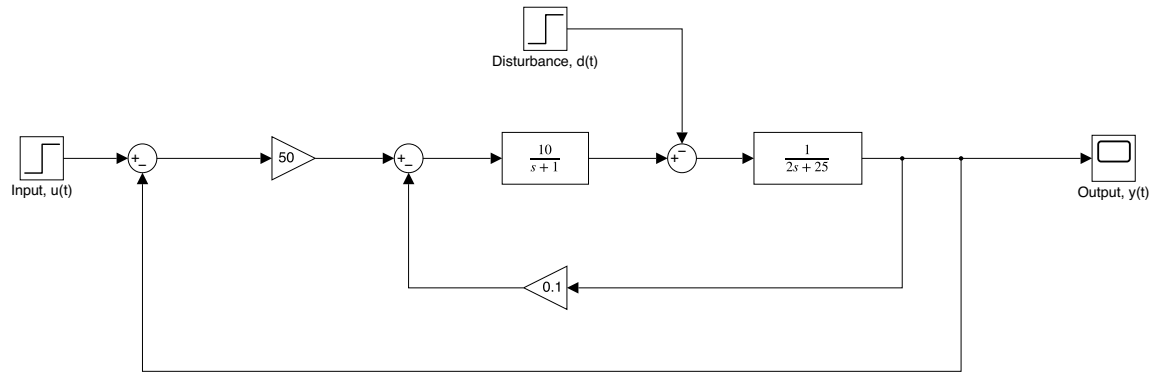

Figure 1: Block Diagram for Problem 1
1. Consider the block diagram illustrated in Figure 1.